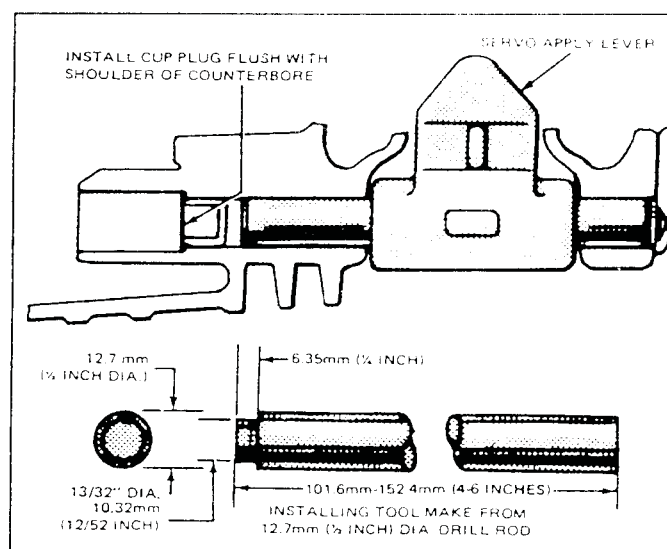

FIG. 33 Servo Apply Lever Installation
1. Working from inside of the transmission case, carefully drive on the servo apply lever shaft to remove the cup plug. The shaft (Fig. 33) can be withdrawn from the case by hand.
2. Using the fabricated tool shown in Fig. 33, drive the cup plug into position in the case. Be sure the plug is flush with the shoulder of the counterbore. The cup plug may be coated with Threadlock and Sealer, EOAZ-19554-AA (ESE-M4G204-A) or equivalent, before installation.